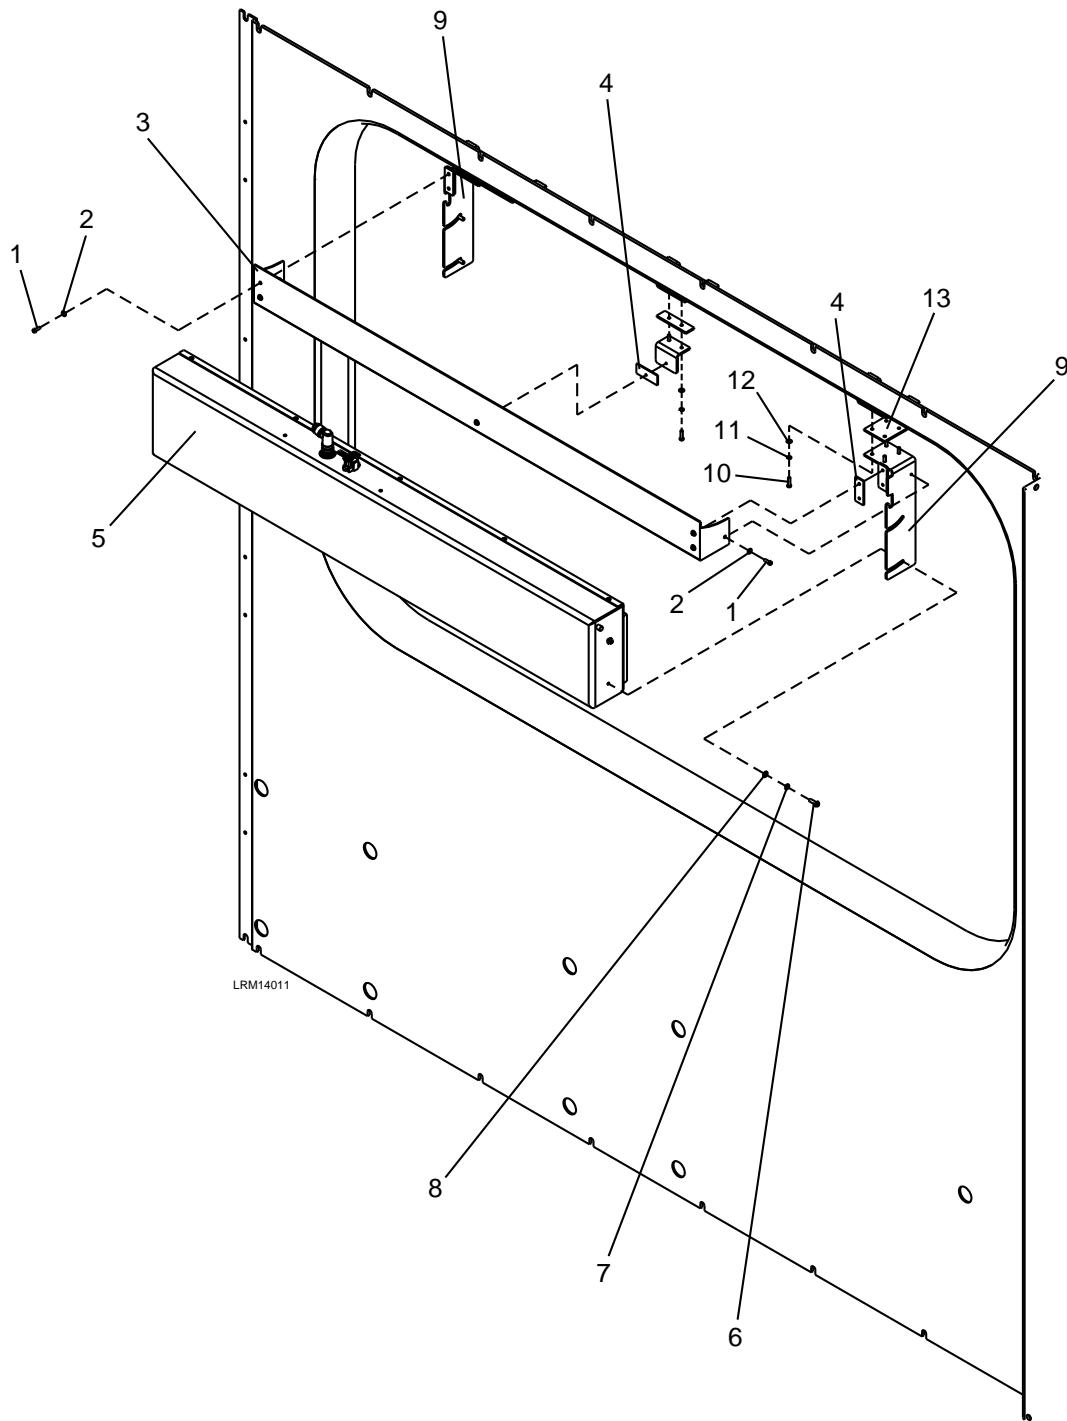

Figure 7-15: Side Destination Sign
1. Remove the seven M4 x 12 screws (1) and M4 plain washers (2) from the cover (3). See Figure 7-15.
2. Remove the cover (3) and the three packing (4).